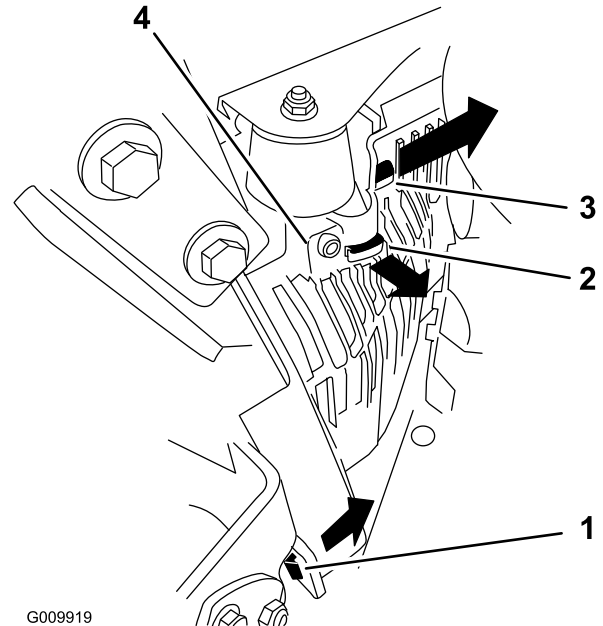

Figure 48
3. Remove the left hydraulic-unit shroud in the order listed with Figure 48. This gives you access to the front spark plug.
5. Install the left hydraulic-unit shroud (Figure 48).